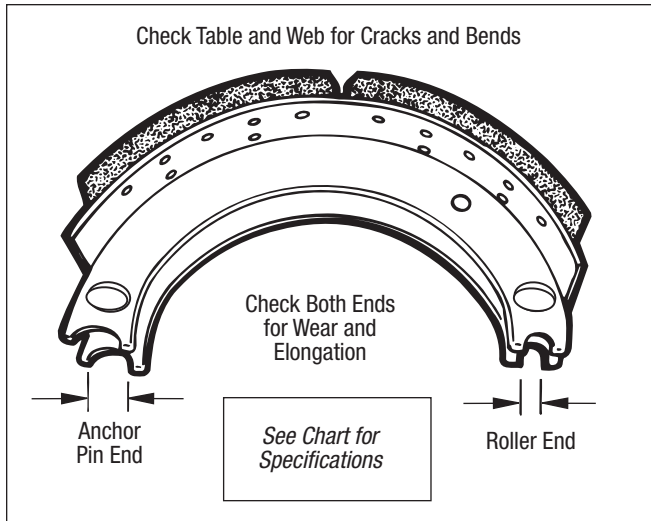

Figure 35 – Shoe & Lining Inspection
1. Check the shoes for bent or cracked webs or table, broken welds, loose rivets, or elongated rivet holes. Refer to Figure 35. If any issues are found, replace the shoes with Bendix® OEM-grade lining and shoe assemblies.